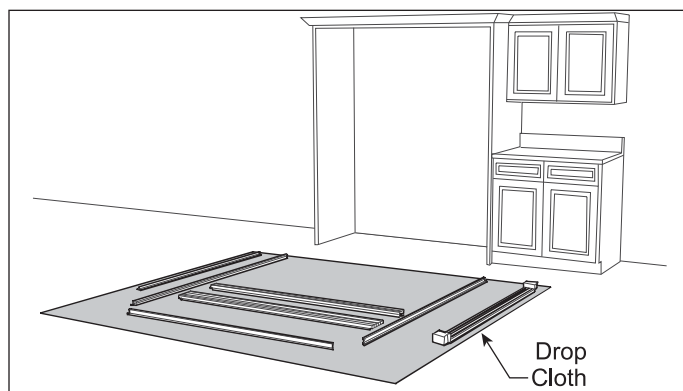

Figure 2-12.
1. Lay the parts out on a cleared area face down. Be sure to place a drop cloth over the floor to prevent scratching trim kit and/or floor. (See Figure 2-12).